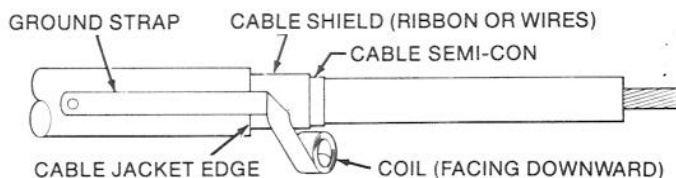

Figure 6
2. Lay the ground strap along cable with the extended coil facing downward (away from you). (Figure 6).